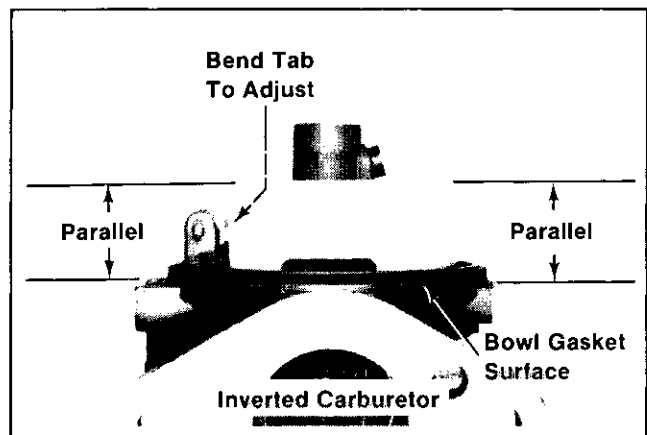

**Figure 6-29. Installing Welch Plugs.**
- Place a new welch plug into the cavity with the raised portion up. Use the end of the tool that is about the same size as plug and **flatten** the plug. Do not force the plug below the top surface. Refer to Figure 6-29.